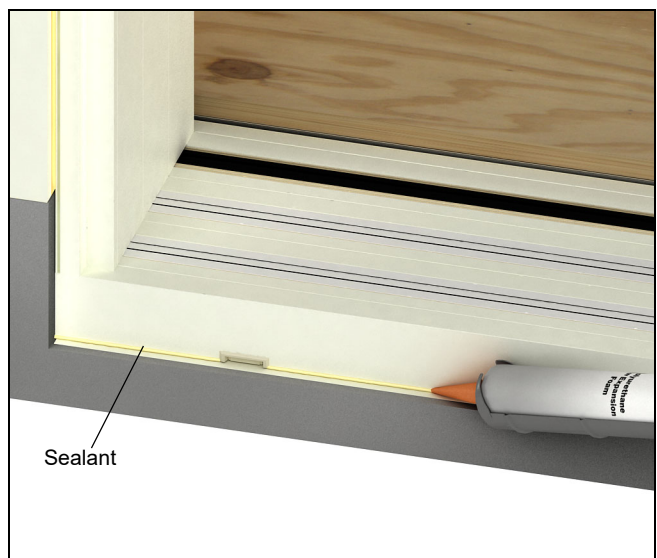

Figure 160
8. Using sealant, seal the bottom of the entire length of sill nosing except in front of weeps. See figure 160.